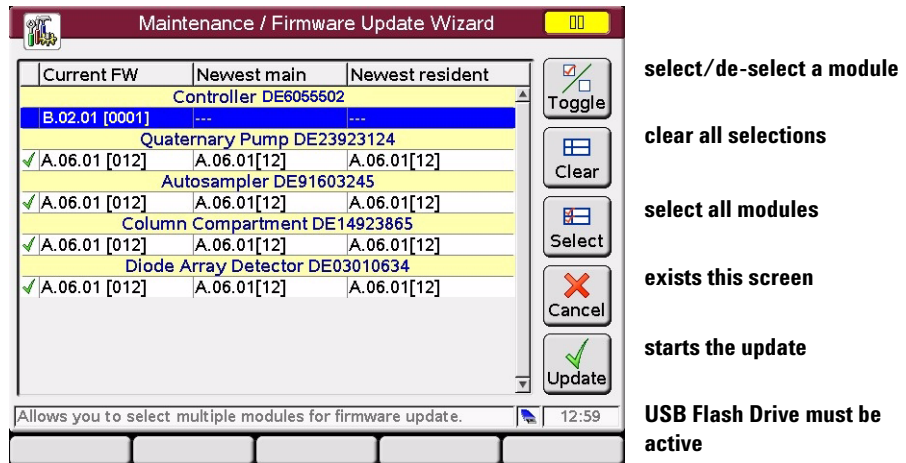

Figure 106 Firmware Update Screen - Update Wizard
- 2 The next screen (Figure 106) shows all modules, their installed firmware revisions and the available firmware revisions on the USB Flash Drive.